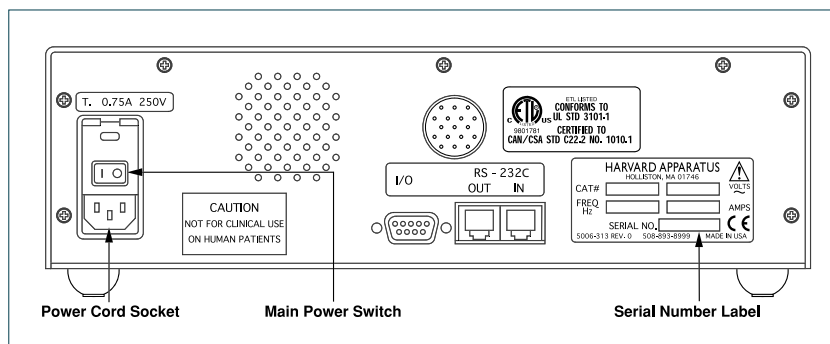

Figure 2a. Rear Panel: Power Entry and Serial Number Label
3. Take this opportunity to fill out and mail the Warranty Card. The Catalog and Serial numbers are located on the Serial Number label on the rear panel. (See Figure 2a.)
4. Turn on the main power switch (see Figure 2a) located directly above the power cord receptacle on the rear panel. The two-line display will illuminate indicating that the power connections are correct. The flashing display indicates that power has just been applied. Pressing any key will reset the blinking display to constant illumination.